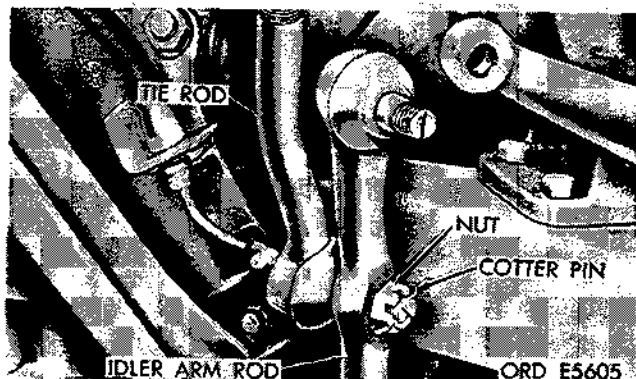

Figure 2-352. Remove left tie rod from idler arm rod.
(2) Remove cotter pin and nut securing left tie rod to idler arm rod (fig. 2-352). Remove tie-rod ball stud from idler arm rod.